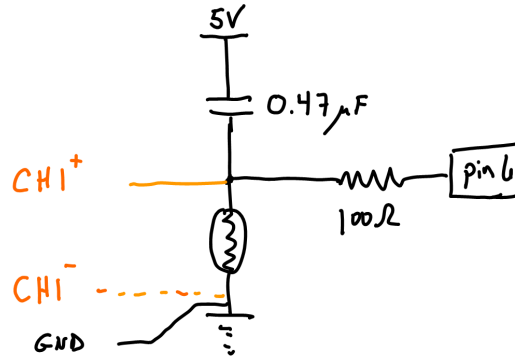

Figure 3: An RC-timer with a photoresistor as the resistive element.
When you measured the rise and fall time of the RC-circuit in Section , the circuit had two essential connections: an input (the Arduino pin and CH1) and an output (CH2). The circuit in Figure 3, however, uses only one connection, but the math is essentially the same as the previous circuit. In this circuit, the Arduino pin will both charge the capacitor *and* measure its decay. To charge the capacitor, you need to set the pin to be an output and turn it HIGH. But you can't just turn it LOW to time the decay – it would immediately source all the current and drain the capacitor. Instead, you must switch it to be an INPUT pin, which will allow you to monitor the voltage without sinking any current. The  $100\Omega$  resistor is simply acting as a current limiter during the charging phase – during the decay, the Arduino pin is set as an input and already has a very large resistance, so the small extra resistance is irrelevant.
2. Replace it with the circuit in Figure 3.